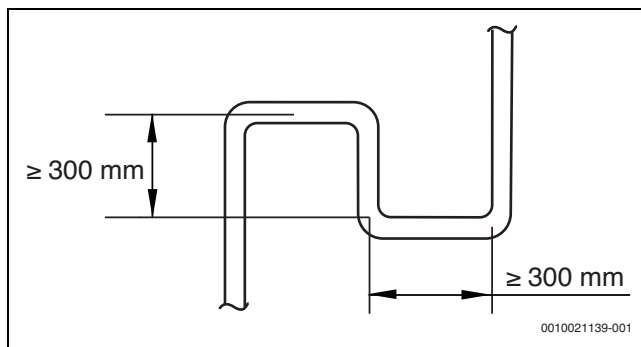

Fig. 3
- ▶ When the outdoor unit is above the indoor unit, and the level difference exceeds 20 m, it is recommended that an oil return bend is set up at every 10 m interval on the gas pipe of the main piping. The recommended specifications of the oil return bend are as shown in figure 3.